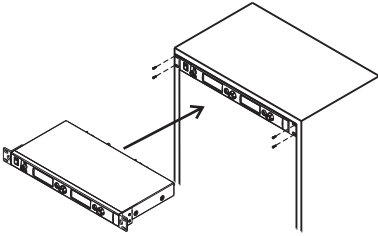

Fig. 6
3. For improving reception, an optional rear-to-front antenna cable installation through rackmount screw holes is highly recommended, Fig. 6.